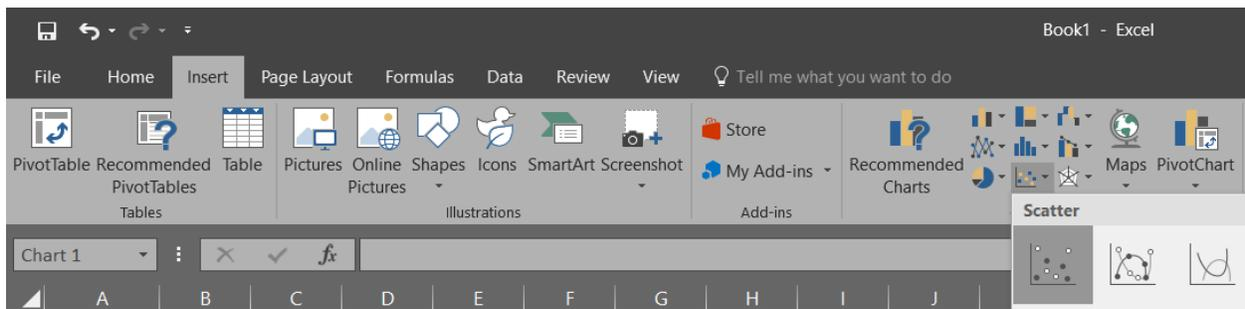

Fig. 3: Insert Scatter Plot
4. Go to Insert. Under Charts, select Scatter (Fig. 3).